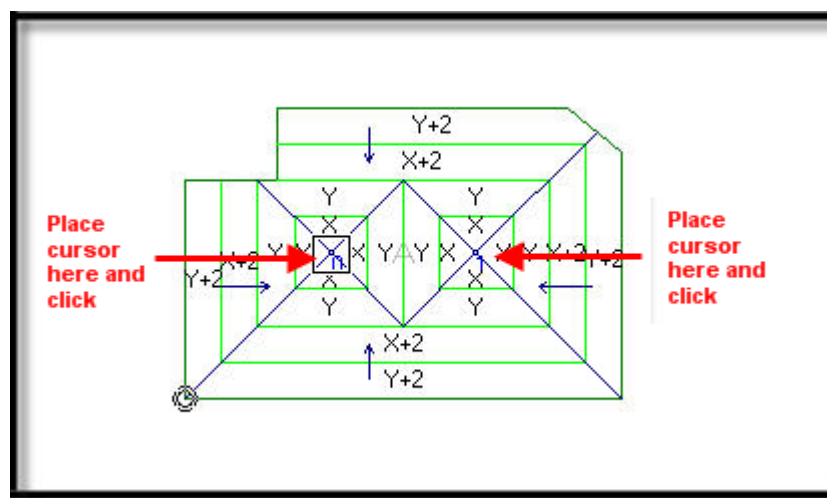

Figure 2-1 Select the first low area
2. Place the box over the first low area (the left drain, as indicated in *Figure 2-1*), and click to select.